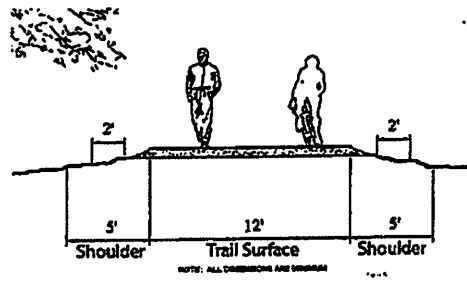

Figure 10.
- C. Concrete shall be a minimum of four (4) inches thick except which cross driveways shall be six (6) inches thick and be reinforced with 6 inch by 6 inch x 10 gauge wire mesh or equal material.
- D. Sidewalks shall be a minimum of five (5) feet in width.
- H.. (see figure 10 for minimum dimensions)